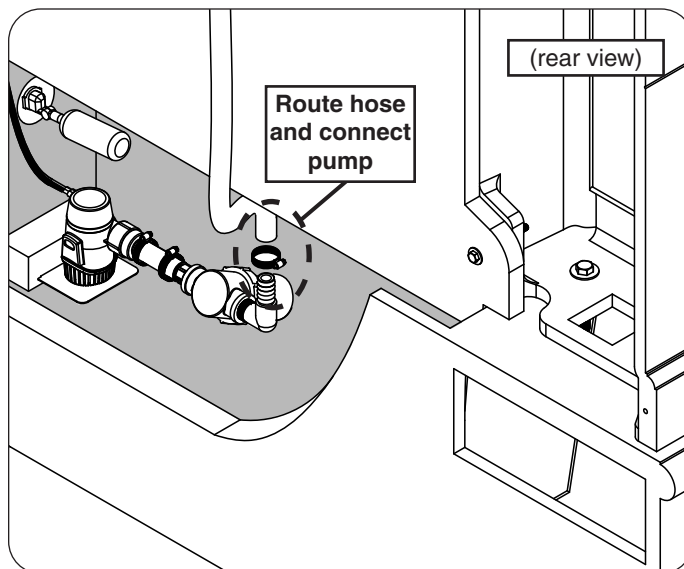

Fig. 30-1 Route hose and connect pump
1. Route the water hose (connected to rear wall) into the burner trough area (see Fig. 30-1).
(See Fig. 30-1)